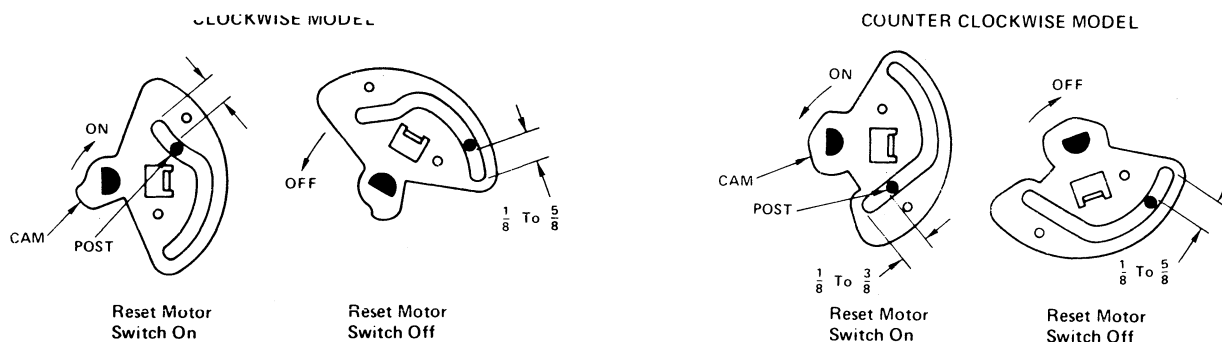

Figure 6. Pump Handle Stop Adjustment – Series 7269 only.
- Remove the reset motor switch, item 1, the cam, item 4, and the pump motor switch, item 7.
- Rotate the switch pawl group, item 6, to the left and remove the clutch group retaining ring.
D. PUMP HANDLE STOP ADJUSTMENT – SERIES 7269 ELECTRIC RESET. Figure 6.